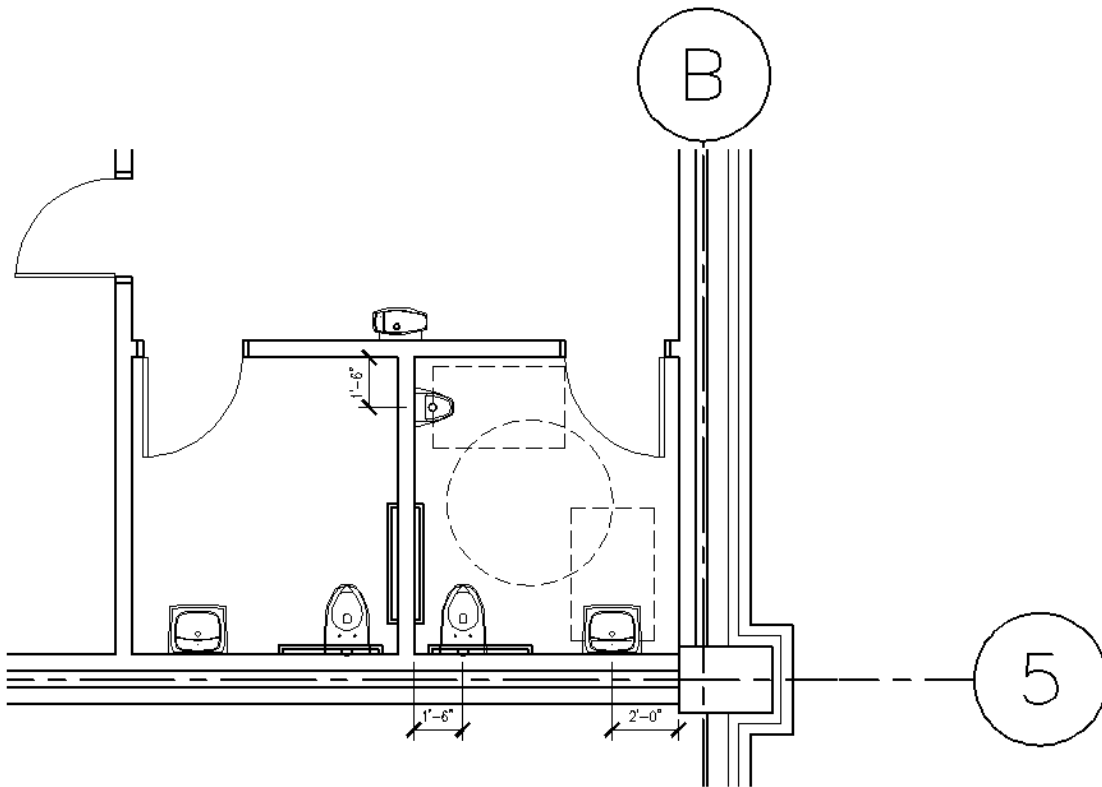

FIGURE 4-1.6 Place the fixtures shown (do not draw the dashed lines)
15. Add the plumbing fixtures as shown in Figure 4-1.6, *plus*:
The dashed lines shown in Figure 4-1.6 represent the clear floor space that must be considered when designing the layout of a toilet room. This tutorial will not get into the specifics related to the clear floor space at each fixture type; but, you may want to consider creating a special layer to place this information on so it can be turned off when not needed.